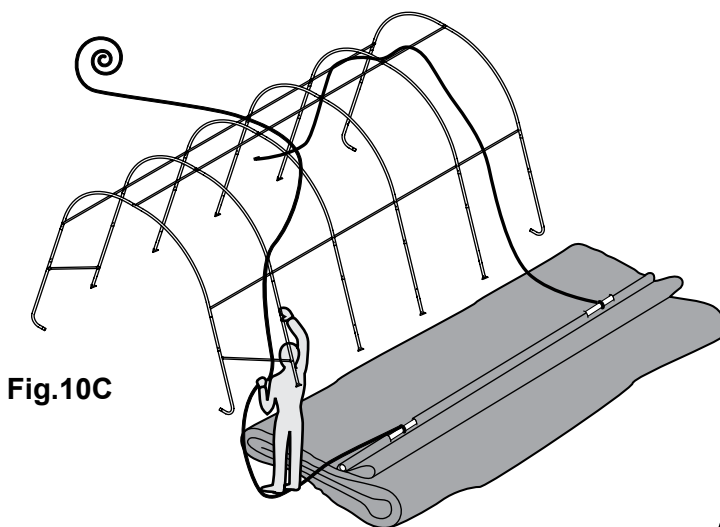

Fig.10C
C. Tie the rope on each of the exposed pipes and throw the other end of the rope over the frame. Fig. 10C.